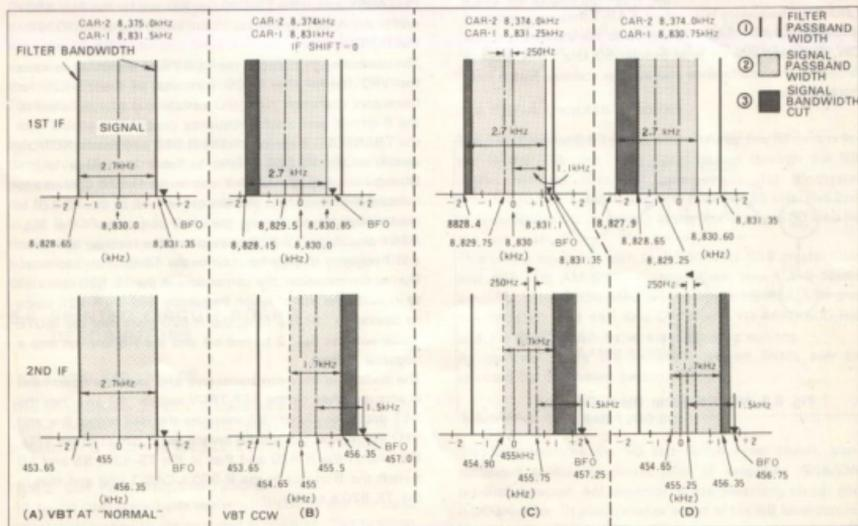

Fig. 5.4 VBT Operation
Fig. 5-4 (A) shows filter F2 and F5 characteristics and the signal status where the VBT(CAR-2) is set to 8,375 kHz and CAR-1 to 8,8315 kHz. Since the filter characteristic coincides with the signal, the passband is 2.7 kHz.
Fig. 5-4 (B) shows CAR-2 set to 8,374 kHz and CAR-1, interlocked with the VBT, set to 8,831 kHz. In this instance, with the VBT control counterclockwise the signal passing through F2 is shifted down by 500 Hz. Bandwidth of the signal passing through the 8,830 kHz filter is 8,828.65-8,830.85 kHz, or 500 Hz narrower than "normal". Thus, filter bandwidth becomes 2.2 kHz, and the signal passing through the 455 kHz filter becomes 455.5 kHz \pm 850 Hz—the overall bandwidth of signals passing through F2 and F5 is therefore 1.7 kHz.
Fig. 5-4 shows the VBT operation characteristics and the signal status under various conditions.
Fig. 5-4(C) shows CAR-1 set to 8,831.25 kHz with the VBT control positioned as in Fig. 5-4(B) and the IF SHIFT control adjusted clockwise. Since CAR-1 has been set to 8,831.0 kHz (in Fig. 5-4(B)), the signal center frequency is 250 Hz higher even when the IF SHIFT control is centered.
In this case, signal bandwidth through F2 is 8,828.65 — 8,831.1 kHz or 2.4 kHz which is 250 Hz narrower than "normal", where the signal through F5 is the same as in Fig. 5-4(B). The difference frequency (8,831.25 — 8,374.0) between CAR-1 and CAR-2 is 457.25 kHz, which is a Carrier frequency 1.75 kHz higher than the sum of F2 and F5 composite center frequency.
Consequently, the bandwidth is 1.7 kHz, and filter center frequency is shifted +250 Hz as compared to ANT input. Fig. 5-4(D) shows 1.7 kHz bandwidth as in Fig. 5-4(C), but with the center frequency shifted —250 Hz.